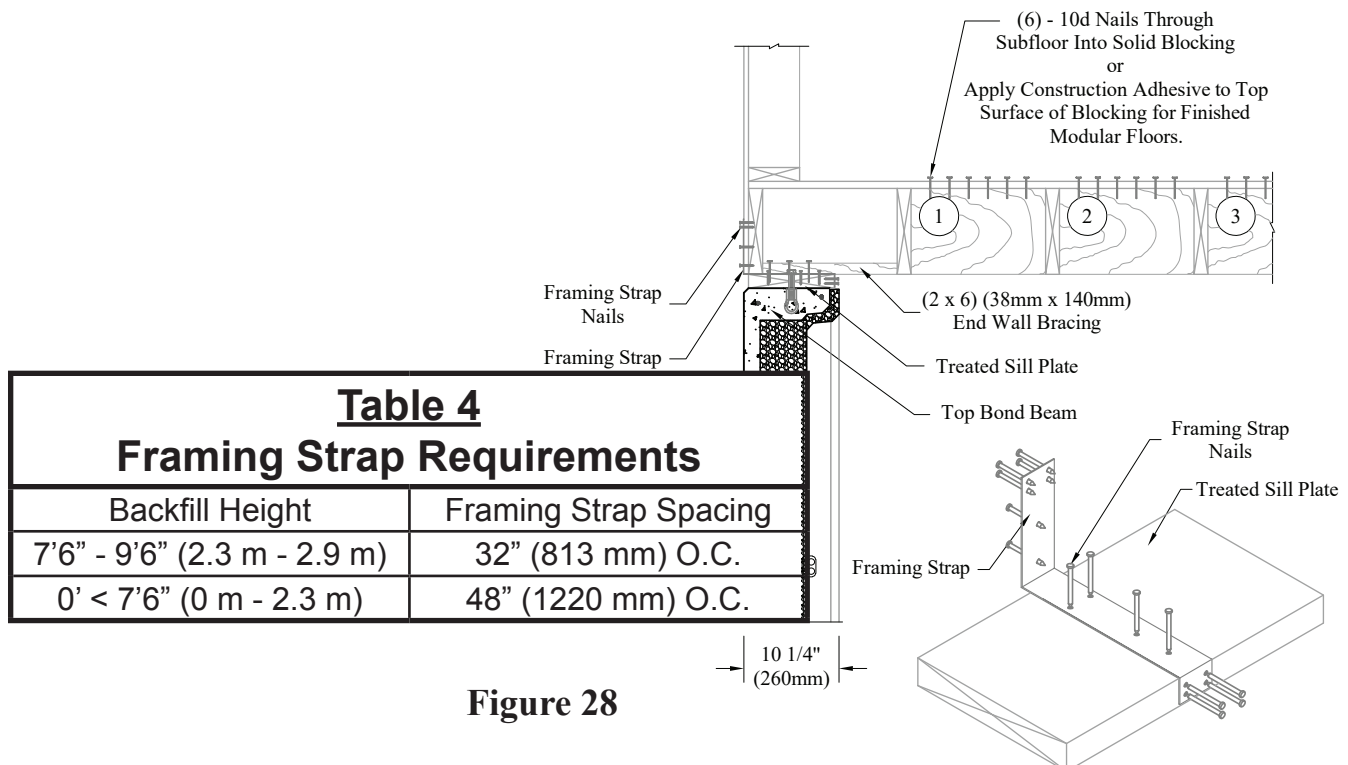

Figure 28
- Add Solid Blocking per Table 3 on page 30, as shown below in Figure 28.